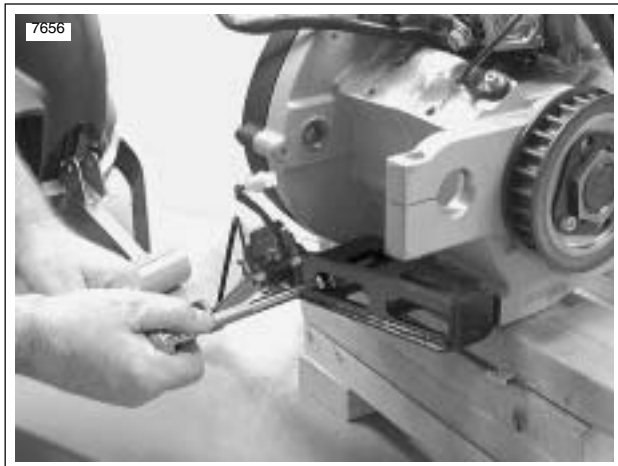

Figure 3-21. Sidestand Bracket
2. See Figure 3-21. Install sidestand and bracket assembly. See 2.29 SIDESTAND.